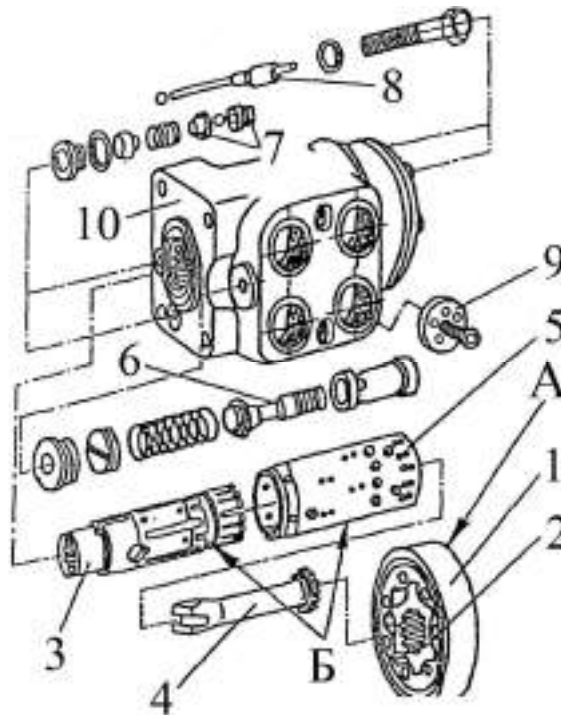

Fig. E-41. Measuring pump (exploded view):
The measuring pump (Fig. E-41) consists of a pumping unit (I), distributor (II), a non-return valve (9), two anti-shock valves (7), safety valve (6) and two anti-vacuum valves (8).